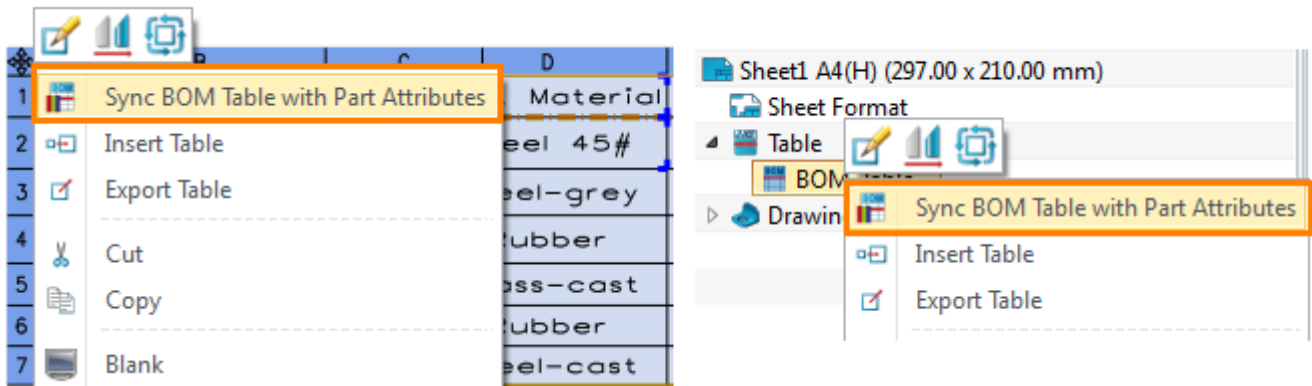

Figure100 Sync BOM table with part attributes
**A7:** As shown in Figure 100, the table can be exported by “Export Table” command and saved as an excel file. Then you could edit this excel file. After editing, the table file can be imported into 2D sheet, as shown in the image below.